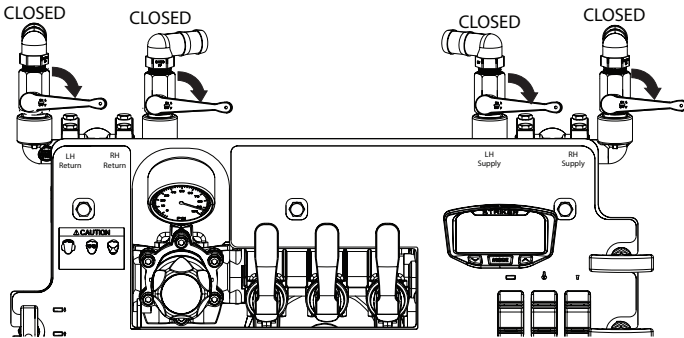

Figure 6-6. Close Supply and Return Valves
1. Rotate the left and right spray tank supply and return valves to the closed position. See Figure 6-6.